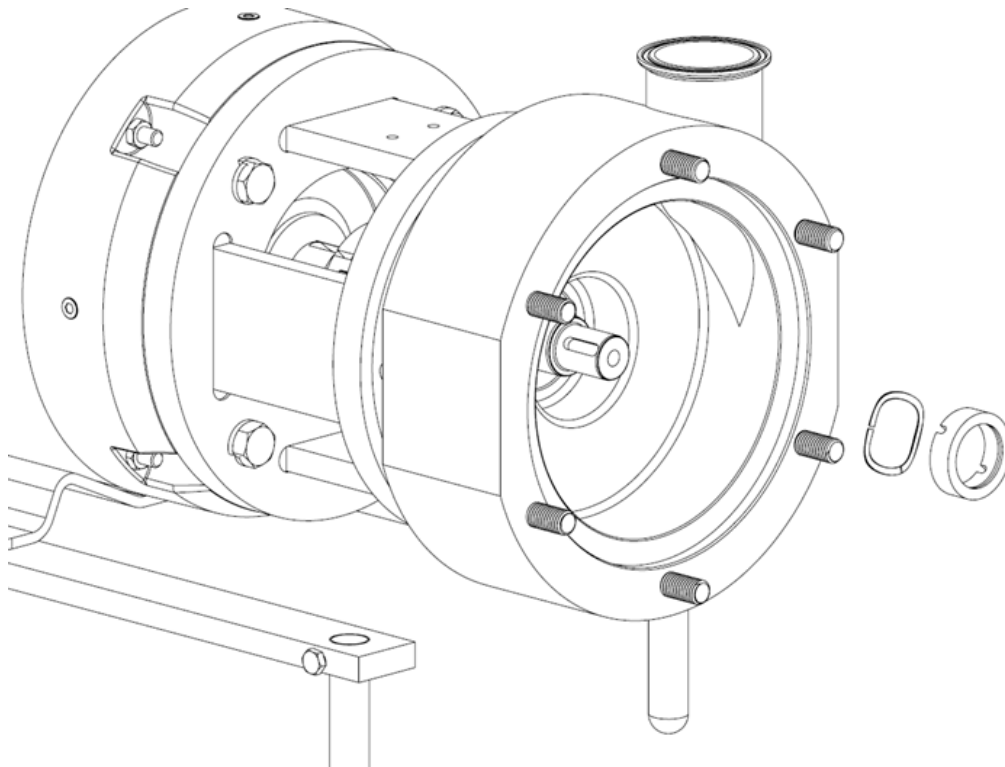

Figure 8
10. Remove the double rotating seal assembly and spring if the mixer has the double seal option. Check the condition of the casing, rotating seal, stationary seal and double seal. Clean and remove any foreign matter before reinstalling the seal. See Figure 8. ***Inspect the seal faces before installing, clean with acetone to remove any oils. Avoid touching with bare fingers***